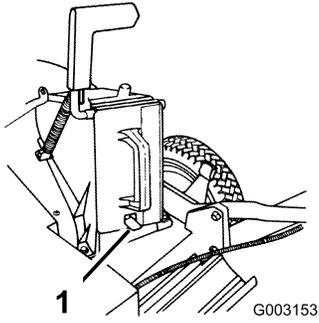

Figure 6
- Push the plug all the way in until the spring clip on the bottom of the plug clicks into place, locking the plug securely into the discharge tunnel (Figure 6).